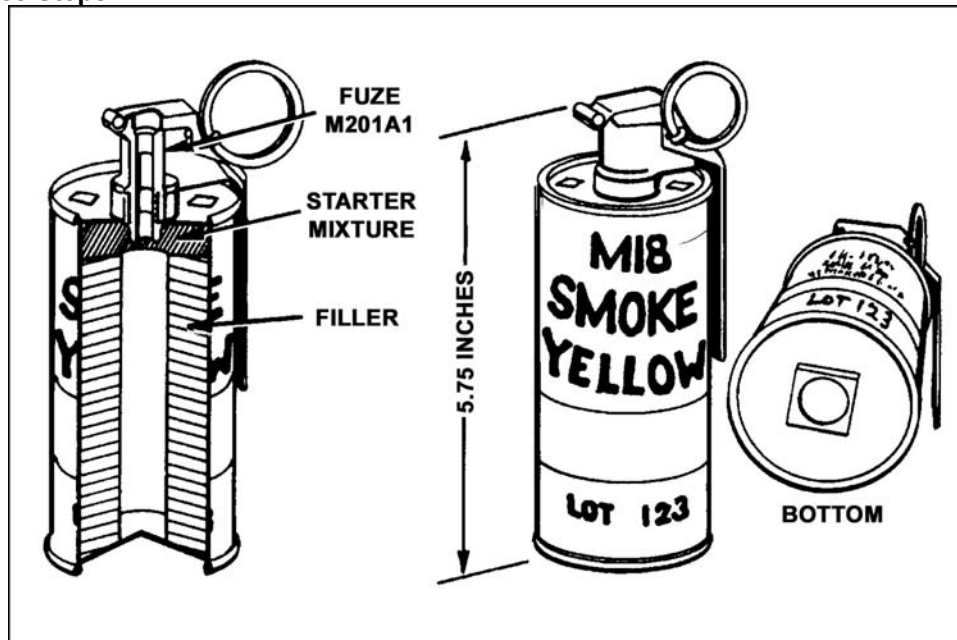

Figure 7. M18 colored smoke grenade.
- c. M18 Colored Smoke (Figure 7). The grenade produces a cloud of colored smoke for 50 to 90 seconds. The colors of smoke are red, green, yellow, and violet. This grenade can be used for signaling and screening.